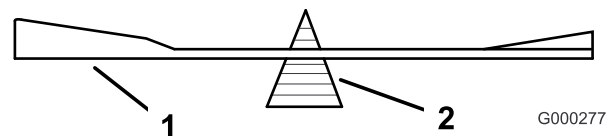

Figure 89
- Check the balance of the blade by putting it on a blade balancer (Figure 89). If the blade stays in a horizontal position, the blade is balanced and can be used. If the blade is not balanced, file some metal off the end of the sail area only (Figure 90). Repeat this procedure until the blade is balanced.